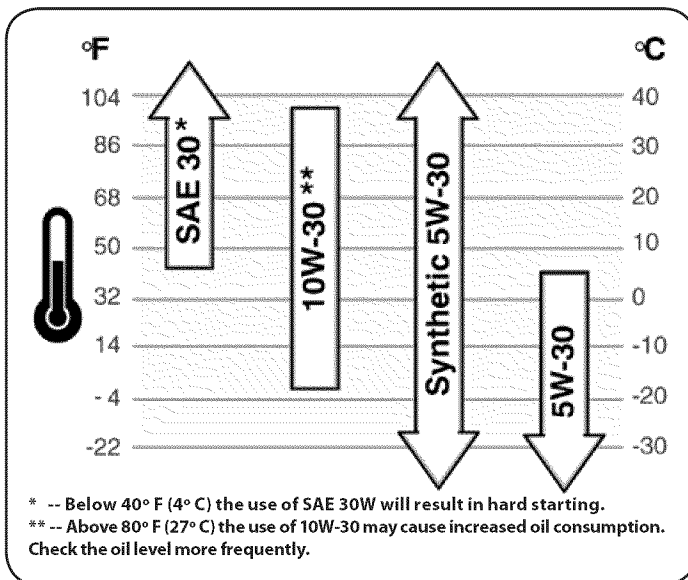

Figure 22
- Refer to the viscosity chart (Figure 22) for oil recommendations. Do not overfill. SAE 30 is recommended for general, all temperature use. Use a 4-stroke, or an equivalent high detergent, premium quality motor oil certified to meet or exceed U.S. automobile manufacturer's requirements for service classification SF, SG, SH, SJ or higher. Motor oils classified SF, SG, SH, SJ will show this designation on the container.